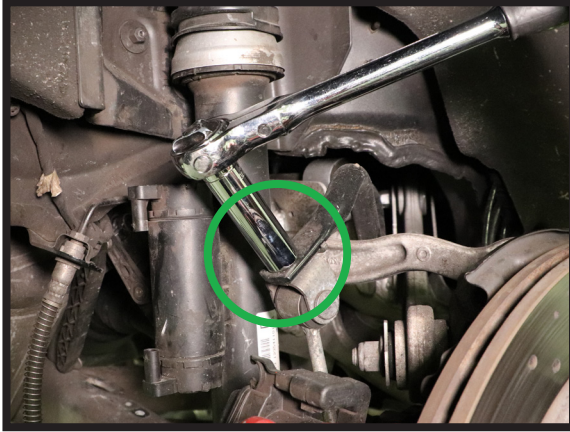

FIGURE 9
8. REMOVE SWAY BAR LINKAGE. (FIGURES 9, 10, 11)